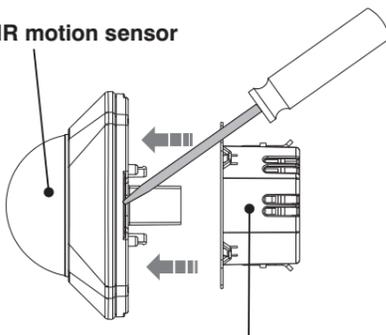

FIG. 1
- Separate the PIR motion sensor from the part of the circuit with a flathead screwdriver (FIG. 1).